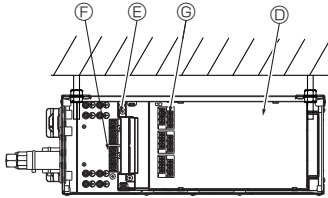

Fig. 8-3
3. Firmly connect each wire to the appropriate terminal block. (Fig. 8-3)